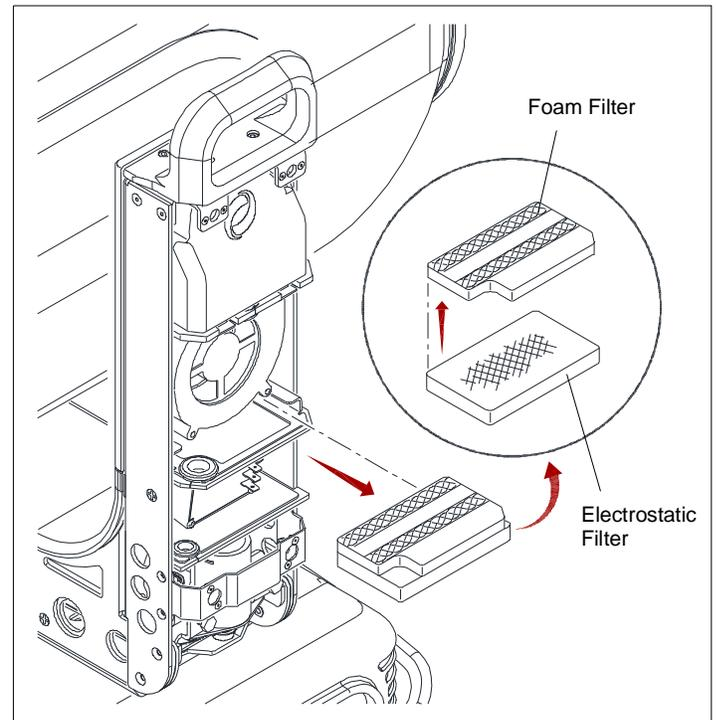

Figure 4-5: Removing Yoke Leg Cover and Air Filters
- Step 2. Remove pan-side yoke leg cover by loosening four captive screws (**Figure 4-5**).